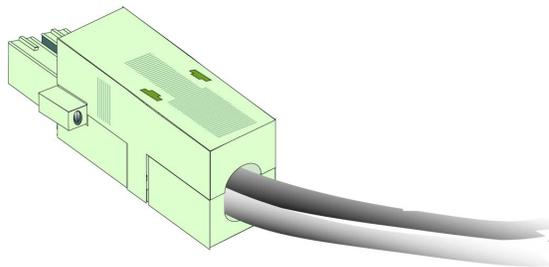

Figure 2-8. Closed Shell Assembly
- c** Make sure the DC power connector sits properly in the bottom section. Then snap the top and bottom sections together, as shown in Figure 2-8.